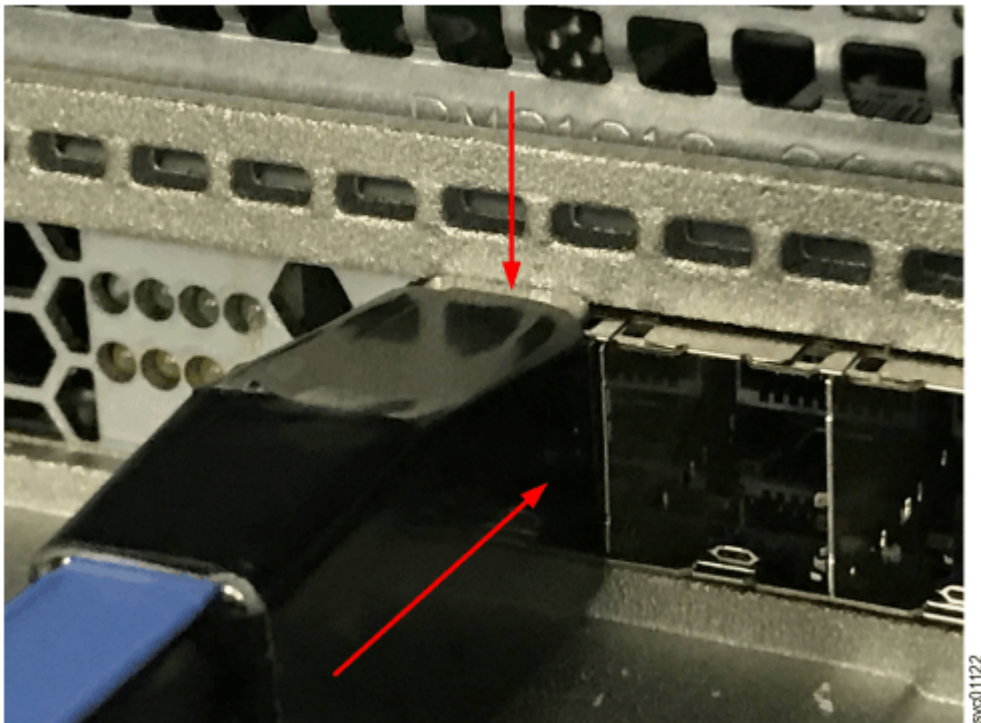

Figure 58. Pushing the SAS cable latch closed
- Insert the connector gently until it clicks into place. If you feel resistance, the connector is probably oriented the wrong way. Do not force it. See Figure 58 on page 98.